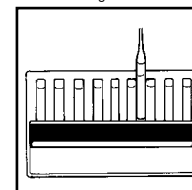

Figure 7
10. Obtain a test result by placing the ampoule between the color standards until the best color match is found (fig. 7).